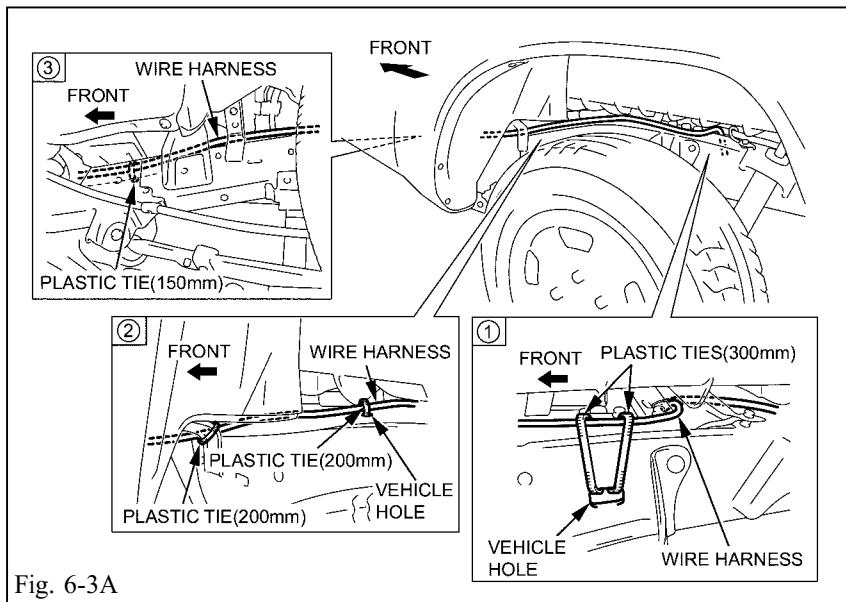
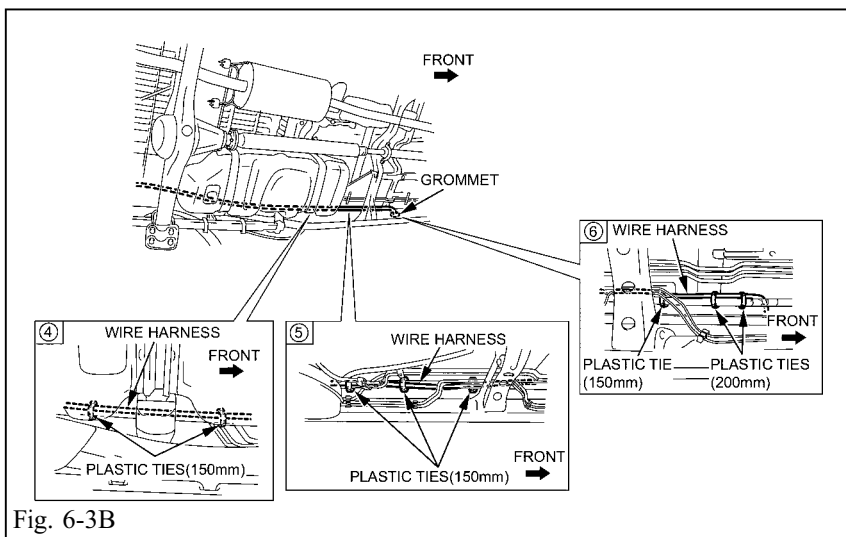

Fig. 6-3A
Fig. 6-3B
- (1) Install the wire harness plastic ties as shown in the figure. Use the amount of ties listed in the table below. (Fig. 6-3A) (Fig. 6-3B)